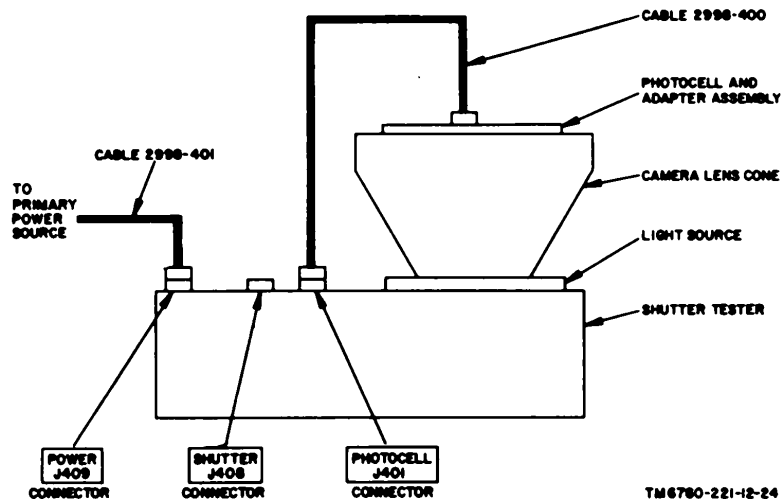

Figure 24. Connection diagram for testing camera lens cone.
a. *Preliminary Procedure (fig. 24).*
- (1) Separate the camera lens cone from the magazine assembly; remove the dust covers, lens caps, and filters from the camera lens cone.
- (2) Place the camera lens cone over
- (3) Set the photocell and adapter assembly on the camera lens cone as follows:
- (4) Attach one end of cable 2998-400 to the photocell and adapter assembly.
- (5) Connect the other end of cable 2998-400 to PHOTOCELL J401 connector on the shutter tester.
- (6) Connect the shutter tester to the primary power source (para 23), using cable 2998-401.
- (2) Remove the photocell and adapter assembly (fig. 24) and cable 2998400 from the camera lens cone.
- (3) Separate the photocell and adapter assembly from the detecting element of cable 2998-400.
- (4) Disconnect cable 2998-400 from the shutter tester.
- (5) Remove the camera lens cone from the shutter tester.